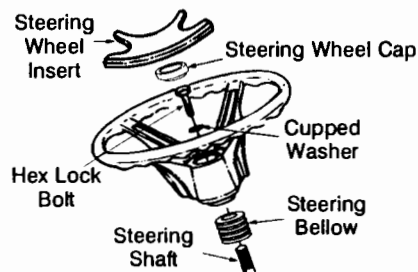

FIGURE 1
5. Place the washer with the cupped side down over the steering shaft. Secure with hex lock bolt. See figure 1.
6. Place the **steering wheel cap** over the center of the steering wheel and seat it with your hand. See figure 1.
7. If your unit is equipped with a **steering insert** packed in a plastic bag with the literature, snap it over the round steering wheel cap. See figure 1.